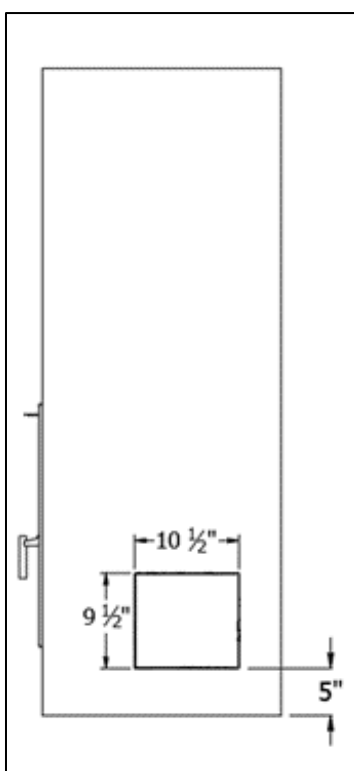

Figure 3-34 Opening for Air Intake
11. Determine the two locations of the air intakes on the chase and cut the rectangular openings of 10.5" (W) X 9.5" (H) (Figure 3-34).